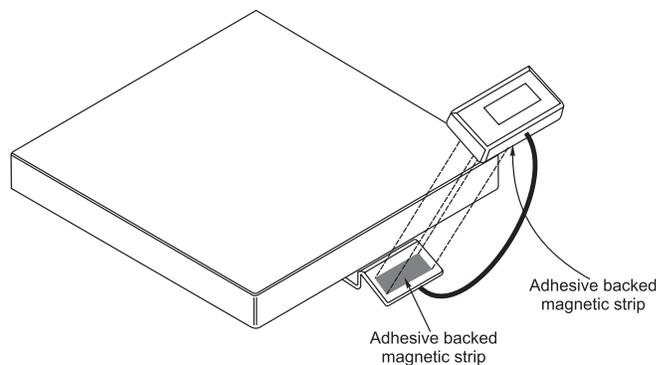

Figure 7
10. Position the display housing on the bracket so the two magnetic strips connect. See Figure 7.